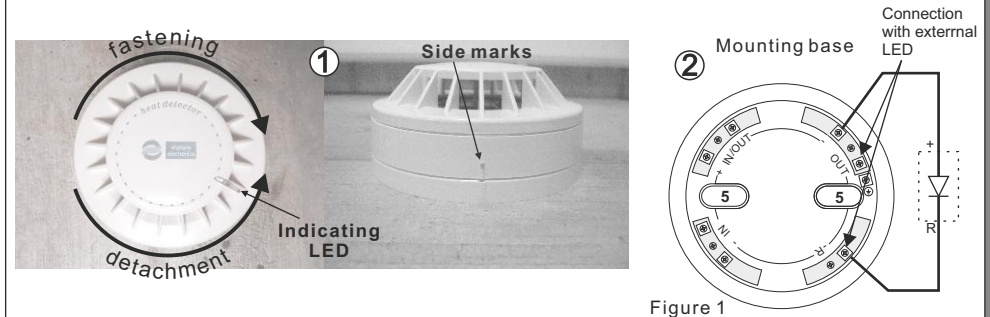

Figure 1
3. Connect the power cables (minding the correct polarity) according to the requirements of the installation (Figure 1, 2).